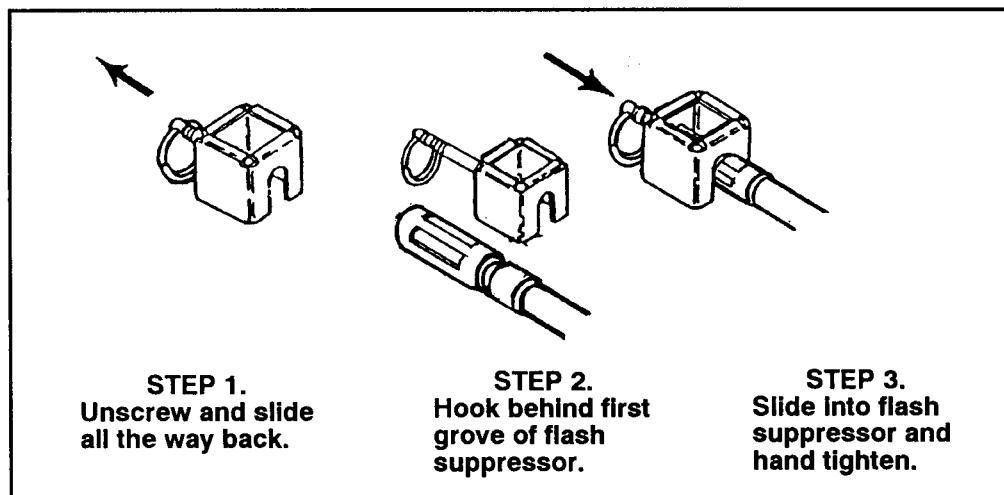

Figure 1-7. M15A2 BFA.
a. **Installation.** The BFA is attached to the M249 AR by using the three steps in Figure 1-7.
(1) Inspects the weapon for damaged parts, excessive wear, cleanliness, and proper lubrication before firing.
(2) When feasible, test fires the weapon using ball ammunition before attaching the BFA.
(3) Adjusts the BFA to fit the weapon.
(4) Applies immediate action when stoppages occur.
(5) Cleans the gas system after firing 500 rounds.
(6) Cleans and lubricates the entire weapon after firing 1,000 rounds.